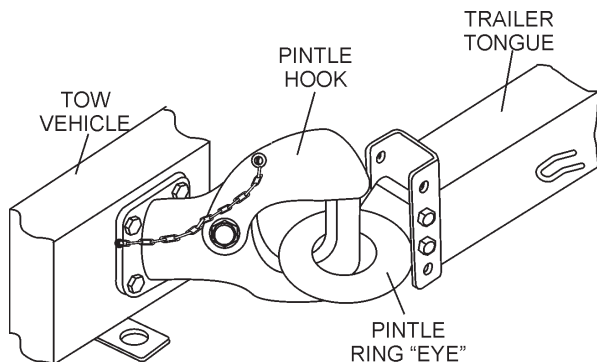

Figure 32. Bumper Pull Trailer (Pintle Hitch)
- **OPEN** the pintle hook locking mechanism (Figure 32). Place the hook inside the eye coupler. **CLOSE** the pintle hook mechanism.